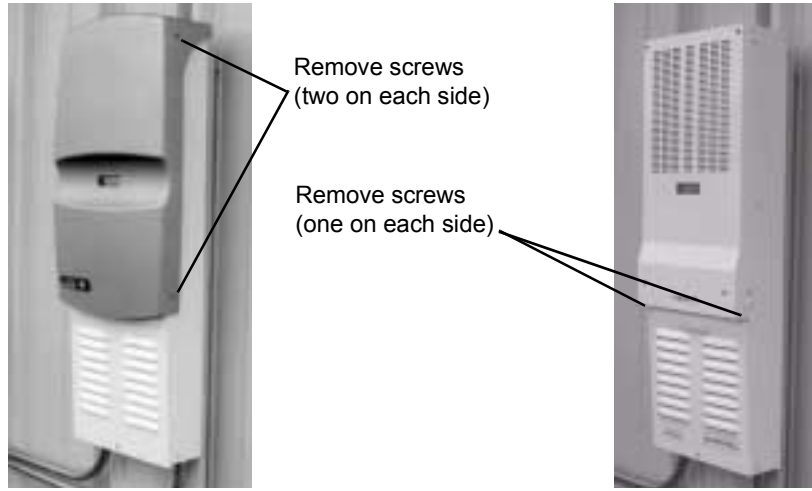

Figure 4-1 Rain Shield and lower panel removal
1. Remove the Rain Shield (if installed) by removing the four screws (two from each side) securing it to the housing as shown in Figure 4-1. Set the screws aside in a safe place.
2. Remove the lower external panel by removing the two screws on either side of the panel as shown in Figure 4-1. Set the screws aside in a safe place.